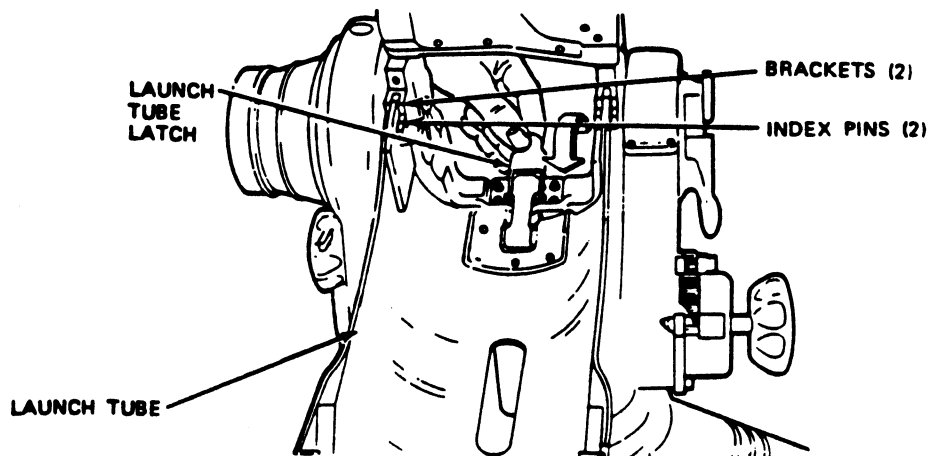

Fig 2-44. Installing the launch tube.
Step 1. Ensure that the opening in the launch tube is up and lift up the launch tube latch (fig 2-44).
Step 2. Place the launch tube on the traversing unit by sliding the index pins into the brackets in the traversing unit (fig 2-44).